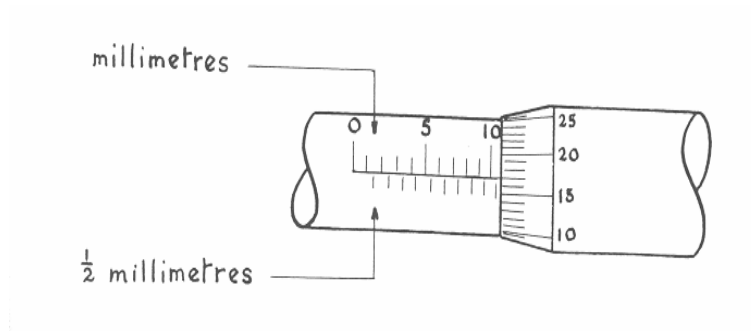

FIGURE 1.2
1.4 What is the reading on the micrometer scale shown in FIGURE 1.2?